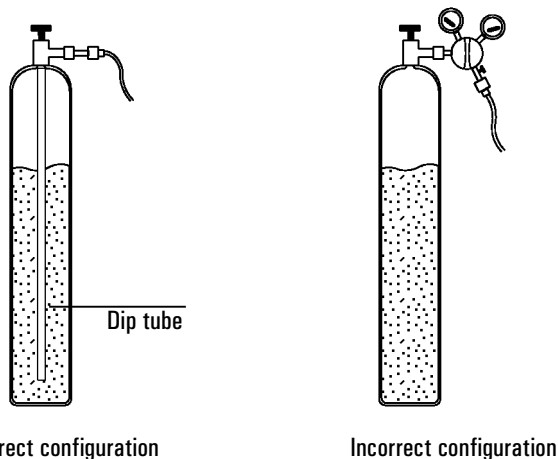

Figure 5. Correct and incorrect liquid CO₂ tank configuration
- The tank must have an internal dip tube or eductor tube to deliver liquid CO₂ instead of gas (see Figure 5).